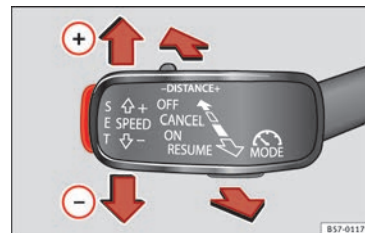

Fig. 48 On the left of the steering column: third lever to operate the CCS.
- Switching on the CCS: move the third lever to **ON** »» Fig. 48. The system switches on but it does not control the speed as no speed has been programmed.
- Activating the CCS: press the **SET** »» Fig. 48 button. It memorises and maintains the current speed.
- Temporarily switching off the CCS: move the lever to **CANCEL** »» Fig. 48 and release it or
- Reactivating the CCS: move the lever to **RESUME** »» Fig. 48 and release it. The memorised speed is saved and controlled again.
- Switching off the CCS: move the third lever to position **OFF** »» Fig. 48. The system is disconnected and the memorised speed is deleted.